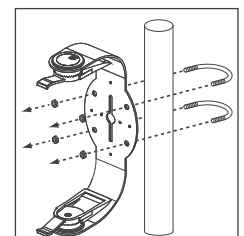

Figure 5: Attaching the Bracket to a Pole
3. If the installation requires that the speaker be mounted on a pole you can attach the FastMount brackets to the pole using 2.5" U-bolts (not included) (see figure 5).